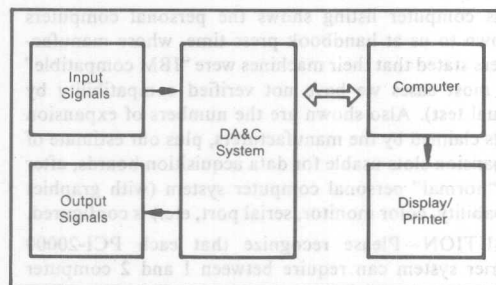

FIGURE 3.1. A Computerized Data Acquisition & Control System.
The advent of the modern personal computer (PC) makes it possible for virtually everyone to take advantage of the flexibility, power and efficiency of computerized data acquisition and control. PCs offer high performance and low cost along with an ease of use that is unprecedented. Thanks to a significant degree of standardization among PC and DA&C manufacturers, a large family of hardware/software tools and applications packages have evolved. The result is that an individual engineer or scientist can now implement a custom DA&C system within a fraction of the time and expense formerly required. It is now practical to tailor highly efficient solutions to unique applications. Furthermore, personal computers invite innovation. This type of innovation has revolutionized the office and is now revolutionizing factories, production lines, testing, and laboratories. Figure 3.1 shows the relationship between the DA&C system and its host computer.